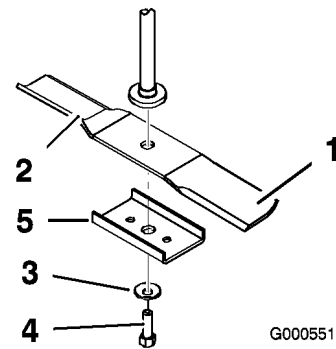

Figure 39
Hold the blade end using a rag or thickly-padded glove. Remove the blade bolt, curved washer, stiffener and blade from the spindle shaft (Figure 39).
1. Install the blade onto the spindle shaft with the stiffener (Figure 39).
2. Install the curved washer (cupped side toward the blade) and blade bolt (Figure 39). Torque the blade bolt to 35-65 ft-lb (47-88 N·m).